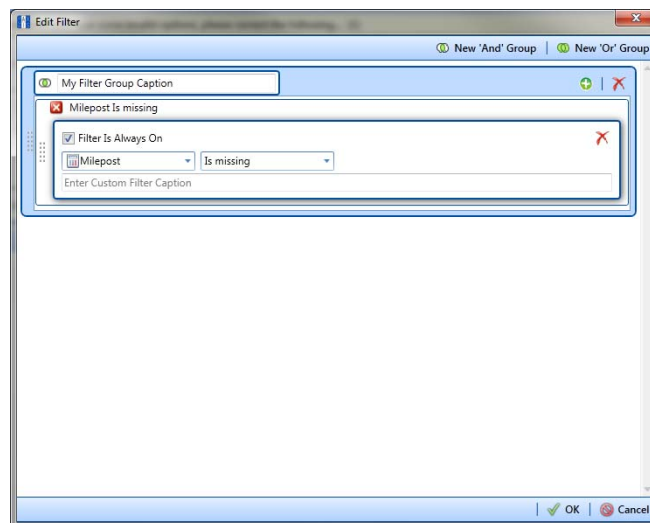

Figure 9-17. New 'And' Filter Group
- a Click  **New 'And' Group** to open the filter properties group box (Figure 9-17).